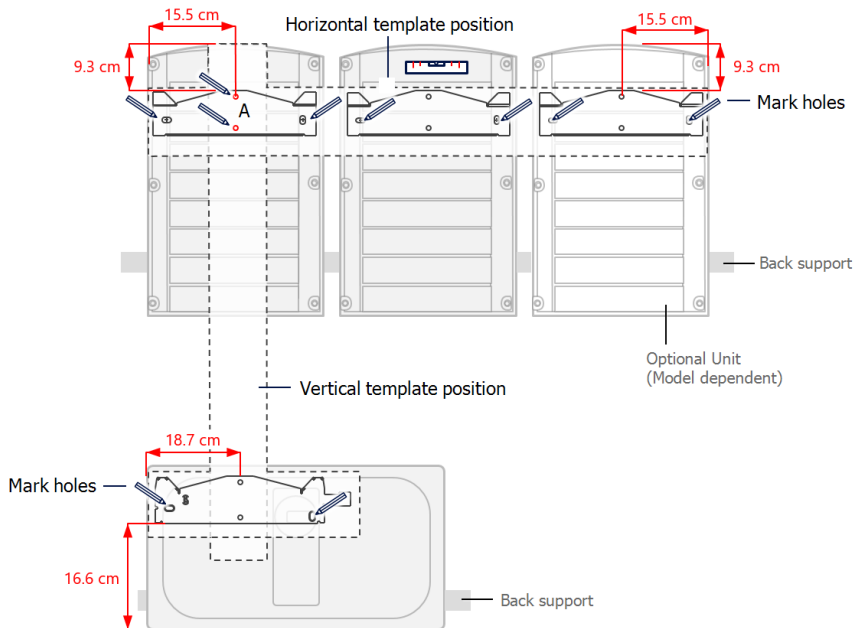

Figure 12: Marking the drilling holes locations
When installing the inverter on a stud framing or a rail, avoid wobbly installation by adding back support at the lower back side of the Synergy Manager and Synergy Units (See *Figure 12*)
3. Level the mounting template horizontally against the wall and mark the drilling hole locations for the bracket of the Synergy Units (see pencil icons in *Figure 12*).